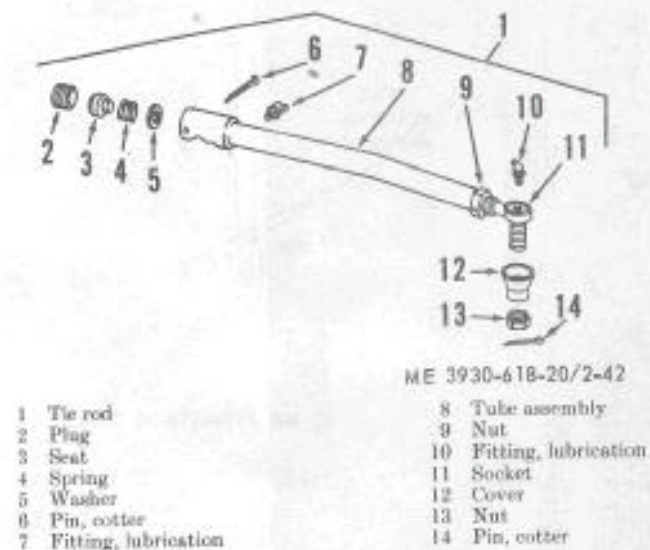

Figure 2-42. Tie rod, exploded view.
- (1) Loosen the adjusting plug and disconnect the tie rod from the pivot arm.
- (2) Remove the nuts from the ball socket on the opposite end of the rods and remove the tie rods from the truck.
b. *Disassembly.* To disassemble tie rods, remove the adjusting plugs and withdraw the internal parts (fig. 2-42). If desired, unscrew the ball sockets. Note the position of each part to assure proper assembly.